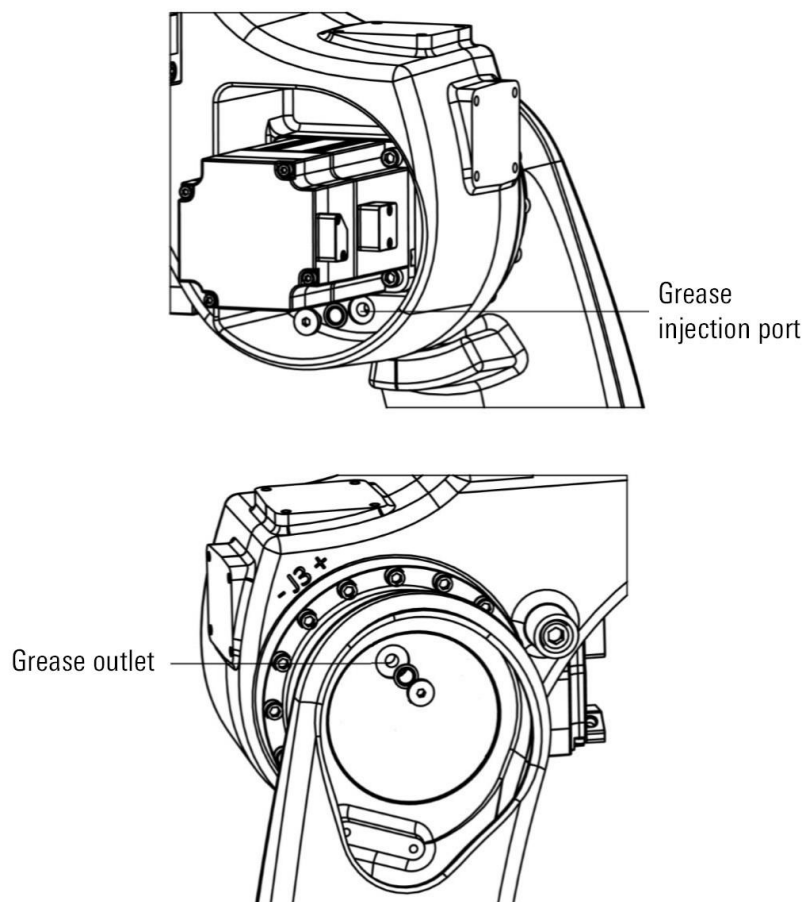

Figure 12-12 Replace the lubricating grease of J3 axis reducer
- Step4. Remove the grease outlet sealing plug and sealing gasket, as shown in Figure 12-12.